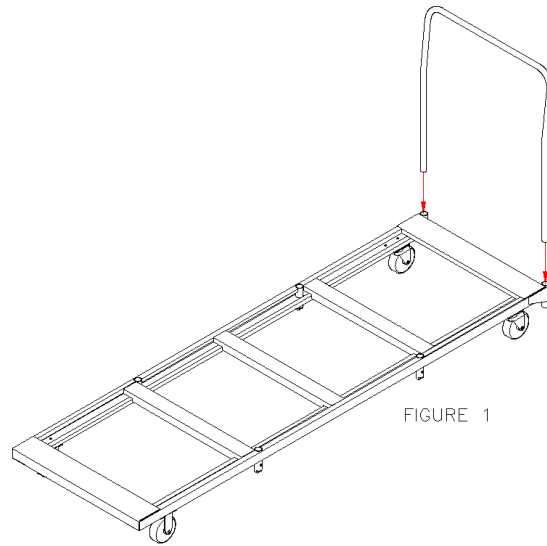
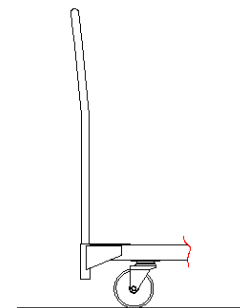

FIGURE 1
FIGURE 2
2. Insert the Main Handle into the sockets on the end of the Base (See Figure 1). Make sure the handle tilts towards you (See Figure 2).